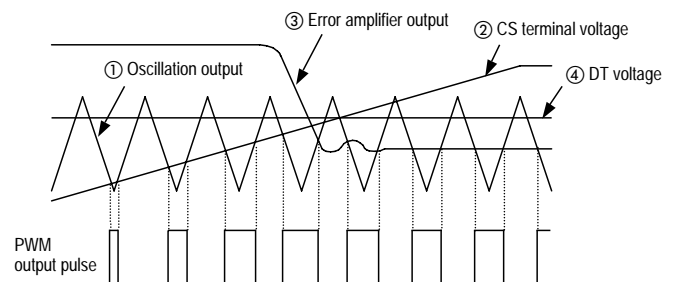

Fig. 5
While the preferred voltage is lower than the oscillator output, the PWM comparator output is Low. While the preferred voltage is higher than the oscillator output, the PWM comparator output is High (Fig. 5). When the IC starts, the capacitor connected to the CS terminal is charged through the resistor connected to the power supply, and then the output pulses begin to widen gradually as the operation of soft start.
In steady operation, the pulse width is determined based on the voltage of the error amplifier ③, and then the output voltage is stabilized. The Dead Time control voltage (④ DT voltage) of FA7700 and FA7701 has different characteristics to adjust the ICs to various types of power supply circuits being controlled and also to reduce external discrete components as many as possible. FA7700 is developed for fly-back circuits, and boost circuits, and the DT voltage is set in the IC so that the maximum output duty cycle is fixed to 80% min.. (Maximum output duty cycle changes according to operation frequencies. —See page 6 "Maximum output duty vs. temperature".) It prevents magnetic saturation of the transformer or the like when a short-circuit in the output circuit occurs. FA7701 is developed for buck circuits, and it is designed for the maximum output duty cycle of 100%. The timing chart of PWM comparator is described in Fig. 5.